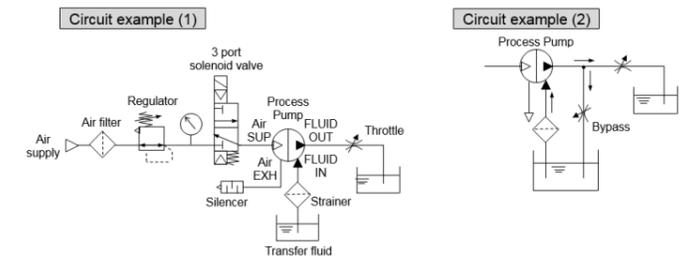

Fig 2. Automatically Operated Circuit Examples
Refer to [Fig. 2] for circuit examples.
<Starting and Stopping> Refer to circuit example (1) [Fig. 2].
- To adjust the flow rate from the discharge port <FLUID OUT>, use the throttle connected to the discharge side. Refer to circuit example (1) [Fig. 2].
- When operating with a discharge flow rate below the specification range, provide a by-pass circuit from the discharge side to the suction side to ensure the minimum flow rate inside the process pump. With a discharge flow rate below the minimum flow rate, the process pump may stop due to unstable operation. Refer to circuit example (2) [Fig. 2] (Minimum flow rates: 55-PA3##0 - 1L/min, 55-PA5##0 - 5L/min).